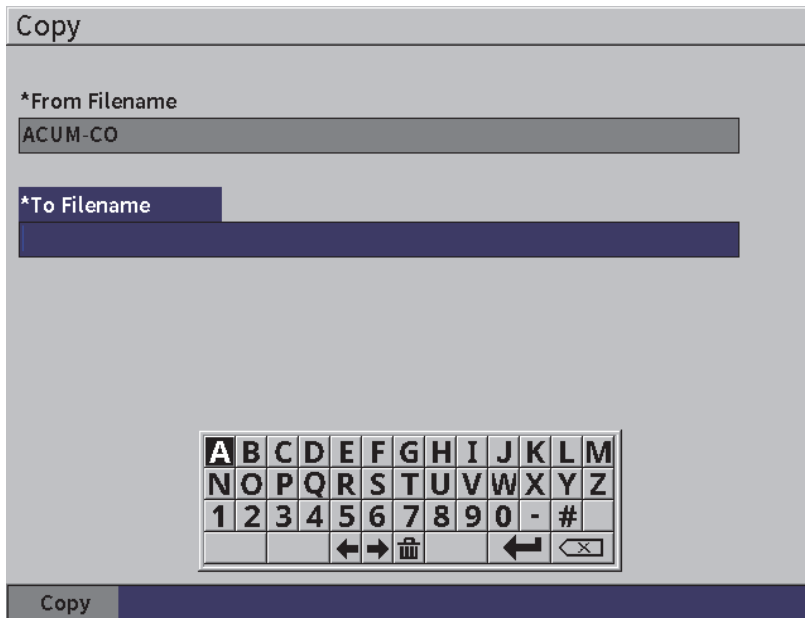

Figure 9-15 Copy setup page
2. Press the Enter key to open the **Copy** page (see Figure 9-15 on page 120).